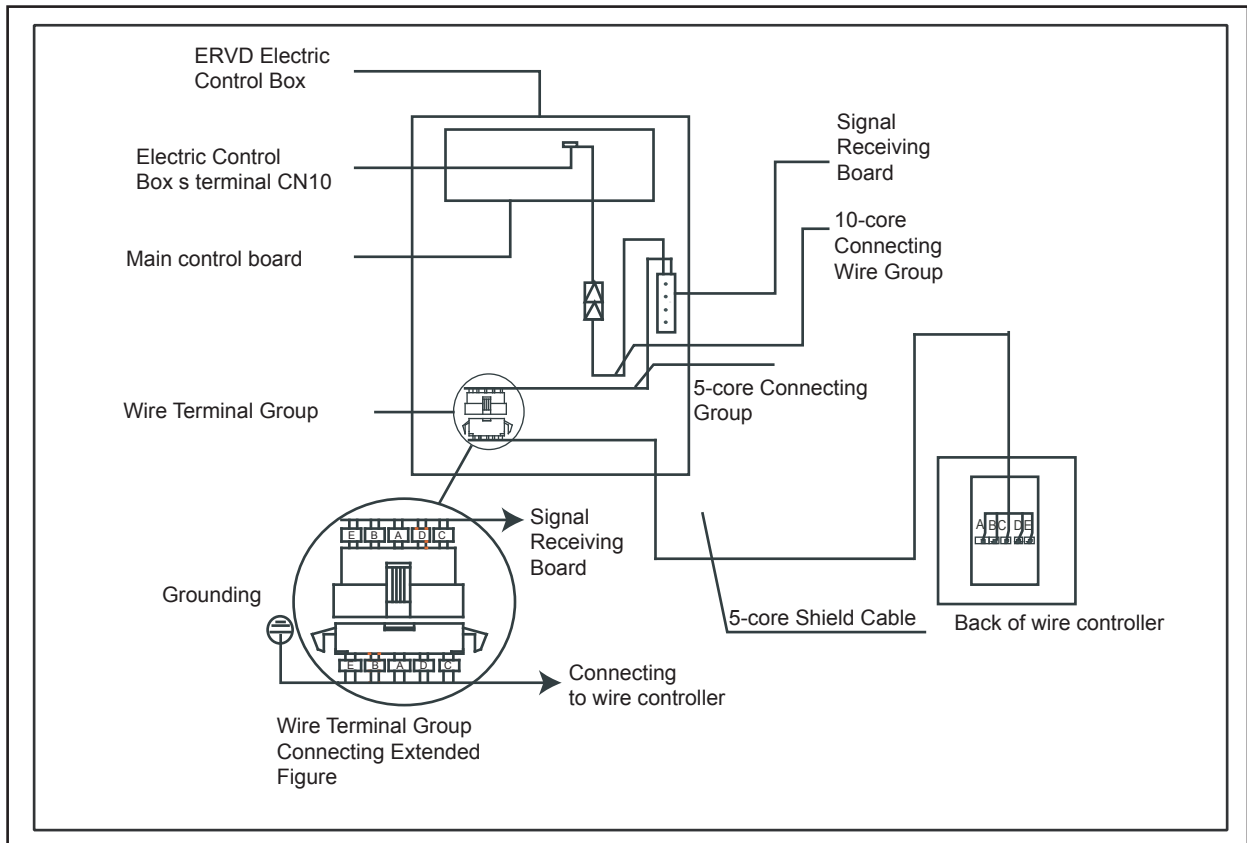

Fig. 4-1
1. For the old version, Fig 4-1, the wire controller connected to the Signal Receiving Board.